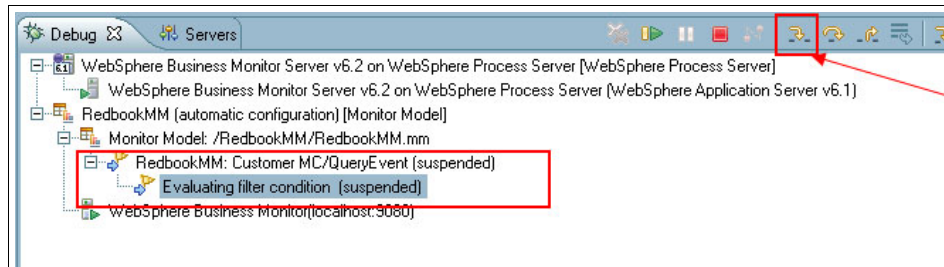

Figure 8-108 Evaluating filter condition
11. Step into the processing by clicking the button as shown in Figure 8-108 on page 302.